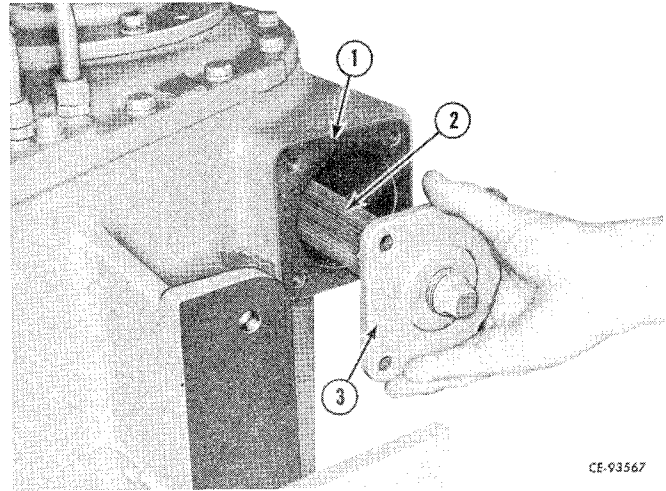

Figure 4-89
Attach a new strainer (2, Fig. 4-89) to the retainer (3). Position the gasket (1) and strainer in the housing. Install cap screws with lock